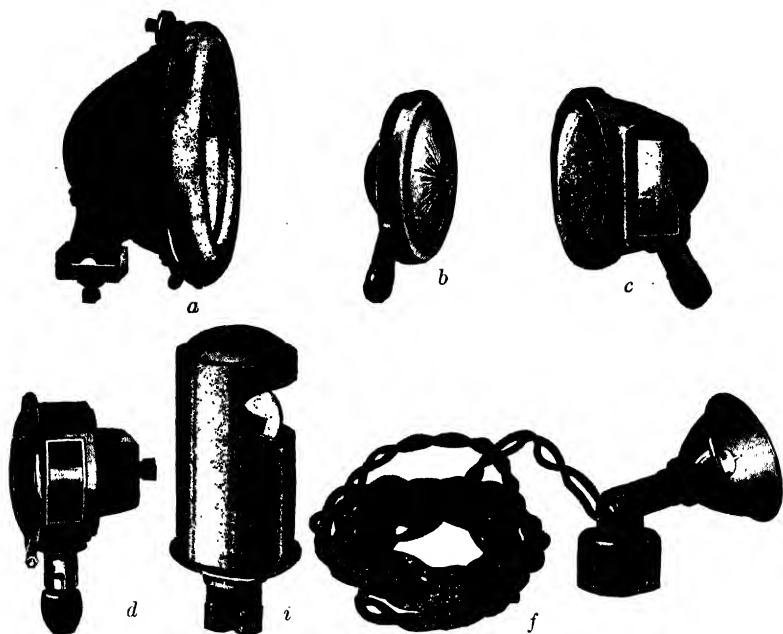

Fig. 189. Types of Side, Dash, Tail, and Trouble-Hunting Lamps
*Types for Various Locations.* Fig. 189 -a, -b, -c, -d, and -e show the usual types of lamps employed. These are, in the order given, an outside side lamp, flush-type side lamp, two types of electric tail lamps, and a cowl or dash lamp for illuminating the instruments, such as the ammeter, oil
telltale, and the like. Fig. 189-f shows a magnetic trouble-hunting lamp, the base of which attaches itself to any metal part of the chassis.